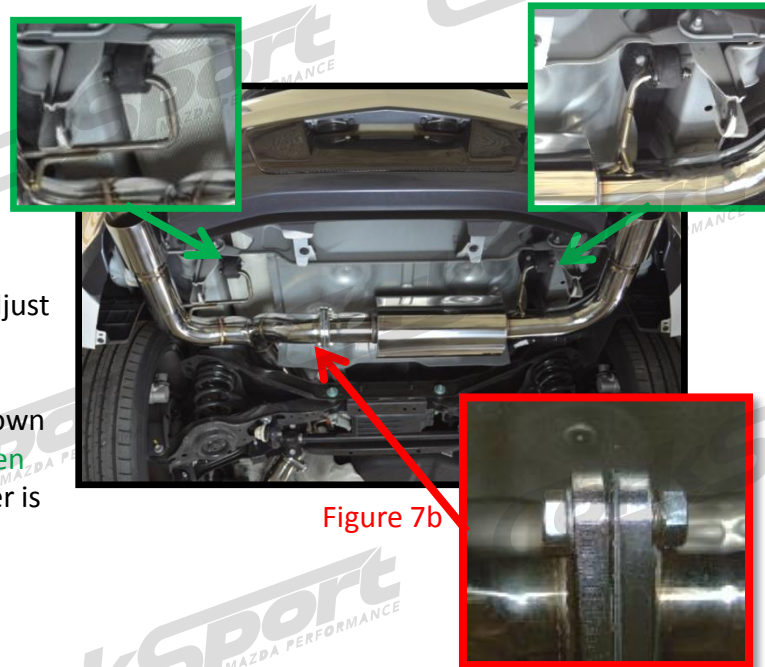

Figure 7b
- a) **Adjust the rear passenger side to match the drivers side.** **Figure 7a** shows how the tips should look. If one is higher than the other, you will need to loosen the two (2) M10 bolts holding the two sections together, align the tailpipes, and then retighten the bolts (red arrow in **Figure 7b**). Your exhaust should now look like **Figure 7a**.
- b) **Adjust the alignment of the tips.** If you need to adjust the entire height of the exhaust or make small alignment changes you can do this using a 17mm boxed end wrench and gently prying the hanger down on the bushing side (shown in **Figure 7b** in the green arrow) until the desired clearance from the bumper is achieved.